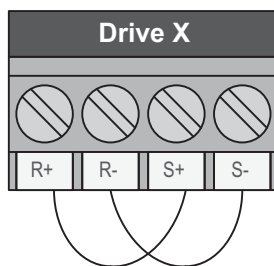

Figure G.11
1. Jumper terminals (**R+ to S+**) and jumper terminals (**R- to S-**) terminals on each individual iQpump drive according to **Figure G.11**.